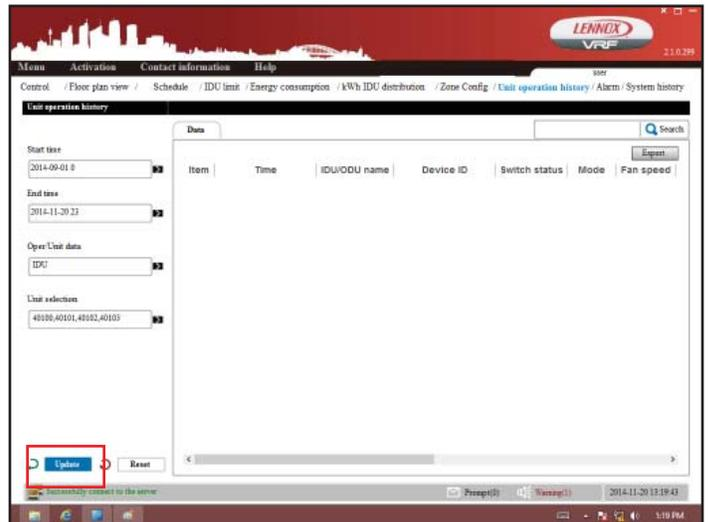

Figure 60. Generate Report
12. Tap the zone you want to include in the report. The indoor units in this zone will display. See figure 60.